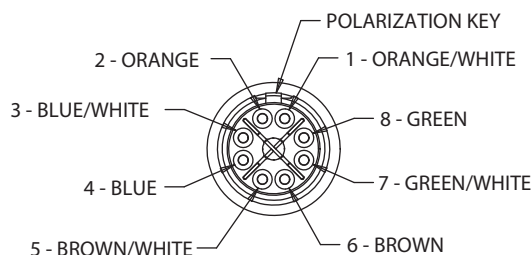

FIGURE 4
- B. Insert each pair of wires into the appropriate quadrant on the isolator according to figure 3 for socket modules, and figure 4 for pin modules.